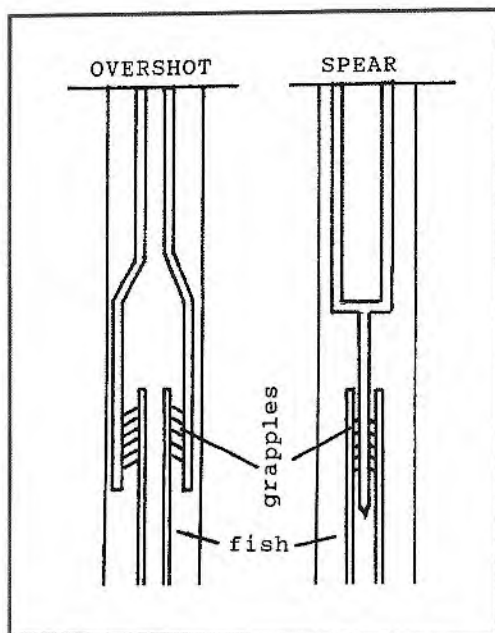

FIG. 6-15 Fishing Tools
2. It may be necessary to dress-off (clean up) the fish so that the fishing tools can get over or into it. This involves running mills with tungsten carbide surfaces for grinding steel. If an over-shot (fishing tool that fits over, or swallows, the fish) is to be used, a mill that grinds down over the outside of the fish is run. If a spear (fishing tool that fits down inside the fish) is to be run, a tapered mill is used to penetrate inside the fish (FIGURE 6-15).